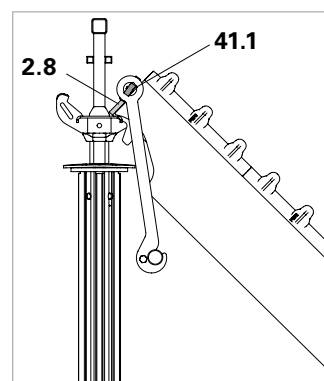

Fig. A11.03
2. Place the Tension Unit Upper Part (41.1) on the end plates of the Main Beam SLT (2.8) and attach the Main Beam to the Drophead SFK. (Fig. A11.03)
4. Mount Base Plate-2 (29) on a sufficiently load-bearing surface area, e.g. using PERI Anchor Bolt 14/20x130, Item no. 124777. Take into consideration the Technical Data Sheet!
5. Insert the Tie Yoke of the Tension Unit Upper Part onto the Tie Rod (41.3), secure with the Hex. Nut SW 30/50 (42), and attach to the Tension Unit Upper Part. (Fig. A11.03 + A11.04)